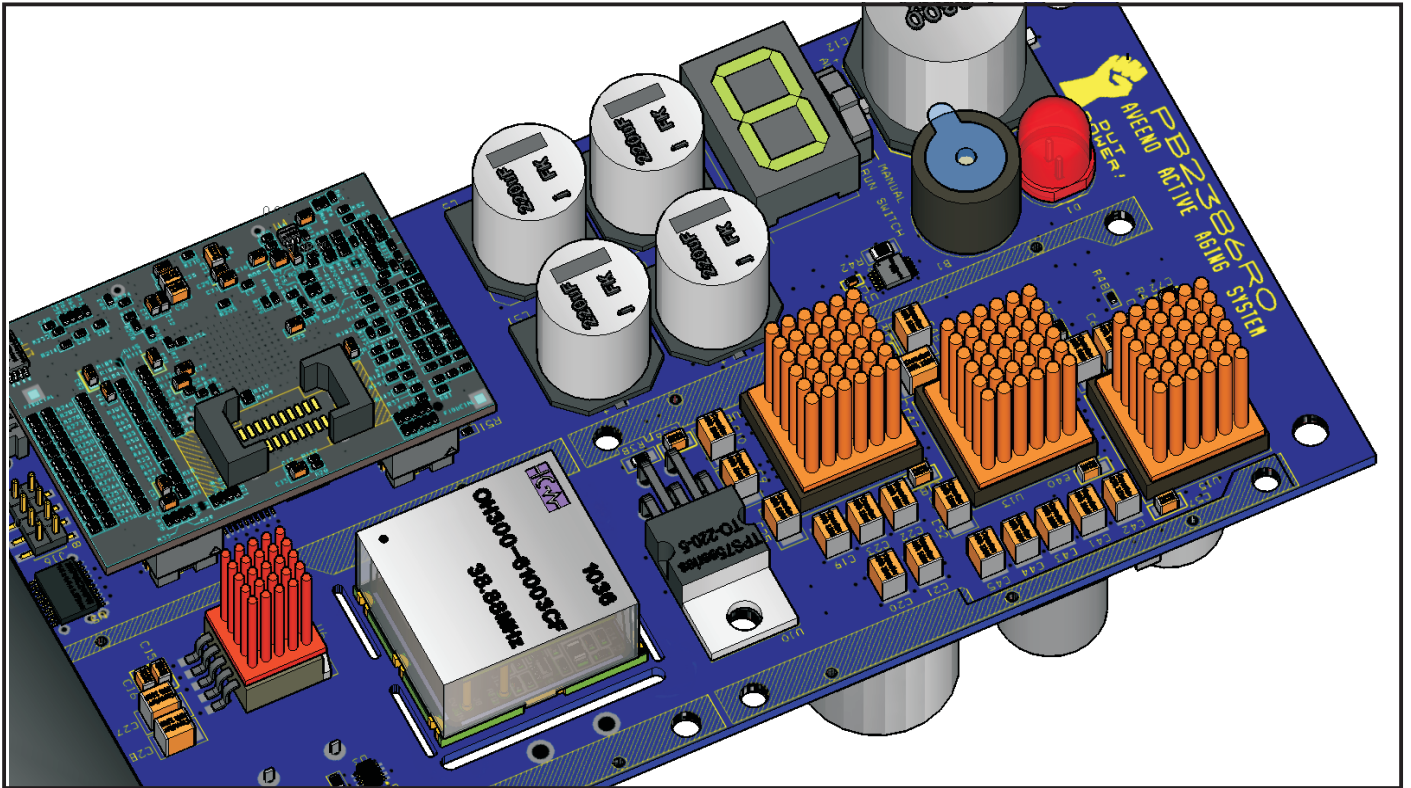

Figure: 17-01
- Optionally a thermal “moat” can be created to prevent thermal energy transfers between the OXCO and board as seen in Figure 17-01. A thermal moat is a routed area around the OXCO and is very effective means to prevent losses from the oscillator while still allowing a top layer pour on the board to heat sink cool other electrical components.